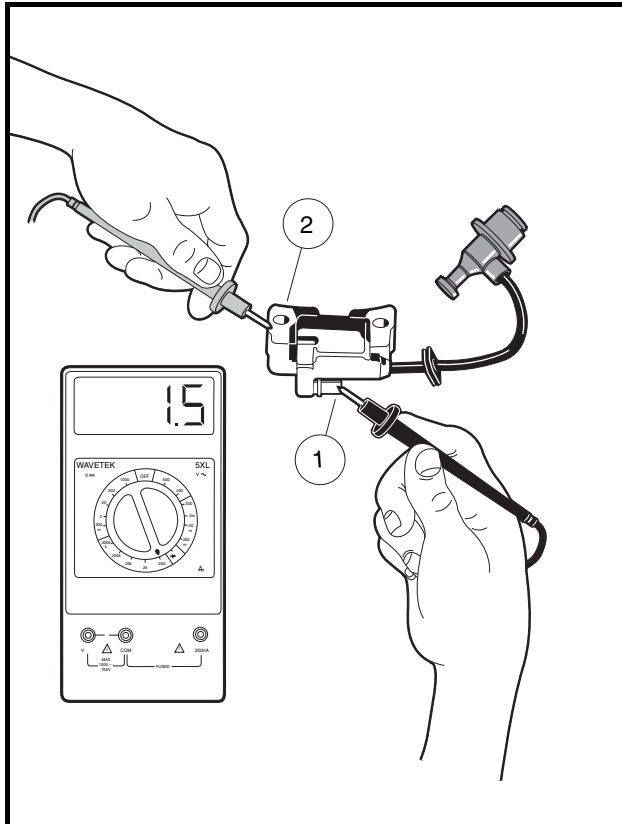

Figure 11-32 Primary Coil Resistance – Bench Test
- 2.1. Place the black (–) probe of the meter on the terminal on the ignition coil (1), and place the red (+) probe on the core (2) (**Figure 11-32, Page 11-29**).